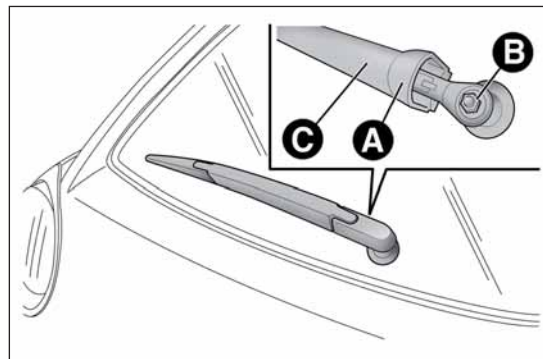

fig. 166
- raise cover A fig. 166, undo nut B and remove arm C;